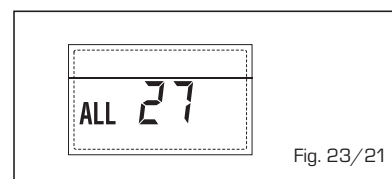

Fig. 23/21
– **ANOMALIA COERENZA INGRESSO (S3) SOLO PER IMPIANTO 7 “ALL 28” (fig. 23/22)**